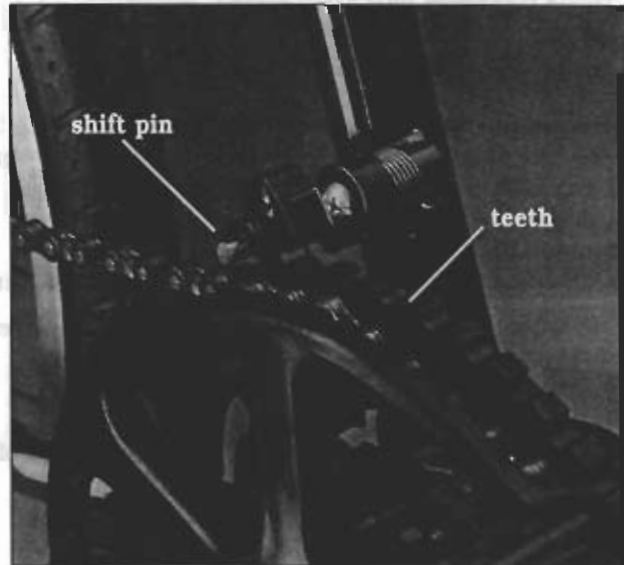

Figure 1:
1. The radial gear normally requires no adjustments. However, if the shift lever requires an excessively long thumbstroke to trigger shifting, the adjusting barrel located on the down tube (see Figure 2) can be adjusted. Turn the barrel counterclockwise to narrow the gap between the shift pin and the teeth. The gap should be no less than $1/16"$ as shown in Figure 1.